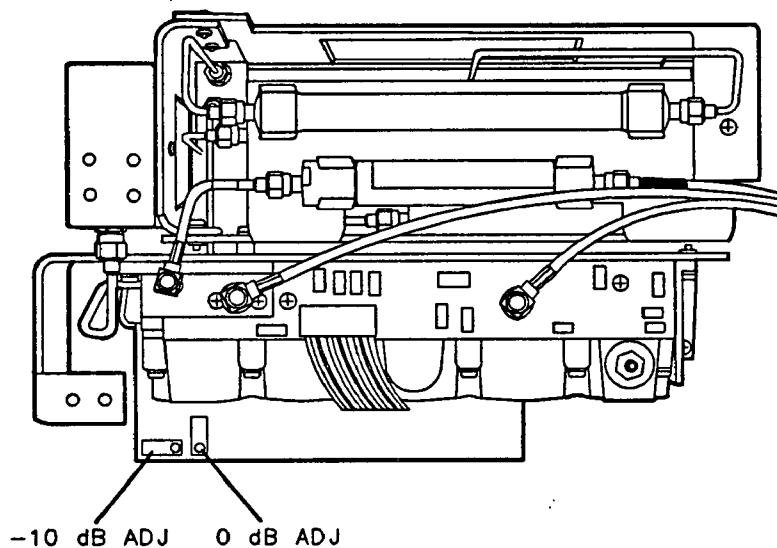

Figure 2-4. BITG Power Level Adjustment Locations
8. On the spectrum analyzer, press **SRC PWR ON OFF** (ON), 0, **dBm**, **SGL SWP**.
9. Adjust -10 dB ADJ (A3A15R13) for a 0 dBm ± 0.05 dB reading on the measuring receiver. Refer to Figure 2-4 for adjustment location.
11. With the SRC PWR level set to -10 dBm , adjust -10 dB ADJ (A3A15R13) for a $-10 \text{ dBm} \pm 0.1 \text{ dB}$ reading on the measuring receiver. Refer to Figure 2-4 for adjustment location.
12. Set the SRC PWR level to 0 dBm . Adjust 0 dB ADJ (A3A15R18) for a $0 \text{ dBm} \pm 0.2 \text{ dB}$ reading on the measuring receiver. Refer to Figure 2-4 for adjustment location.